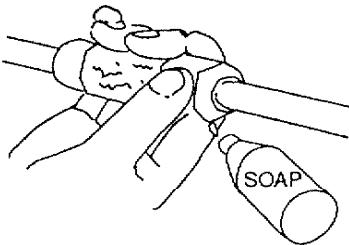

Fig. 18
- f) Leak test all joints with liquid soap. (Fig. 18)